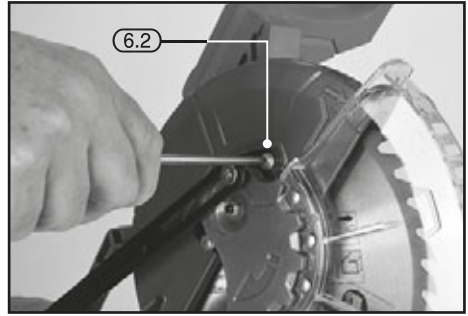

FIG.20
### 8.13 CHANGING THE BLADE – FIGS.20 – 25
- Raise the plunge handle (4) to its highest position.
**Stock No.79889 (Fig.20):**